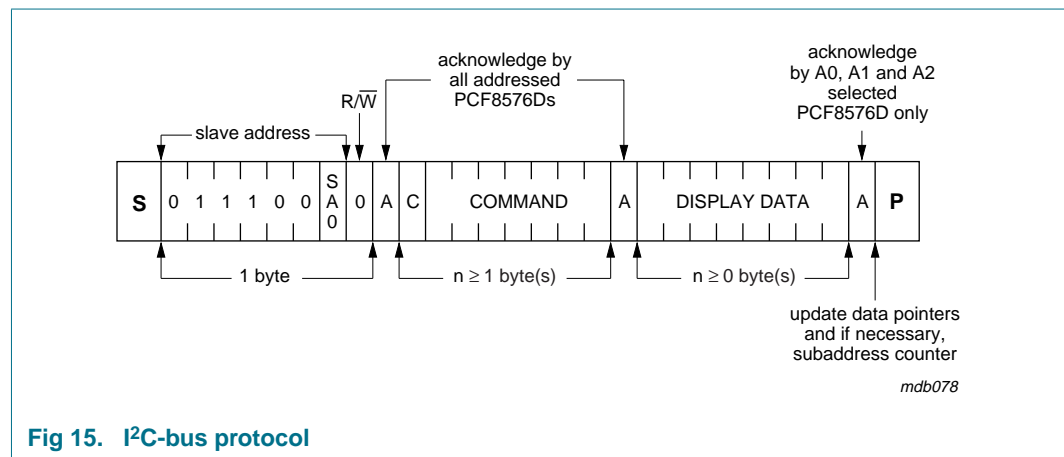

Fig 15. I²C-bus protocol
The I²C-bus protocol is shown in Figure 15. The sequence is initiated with a START condition (S) from the I²C-bus master which is followed by one of two possible PCF8562 slave addresses available. All PCF8562s whose SA0 inputs correspond to bit 0 of the slave address respond by asserting an acknowledge in parallel. This I²C-bus transfer is ignored by all PCF8562s whose SA0 inputs are set to the alternative level.